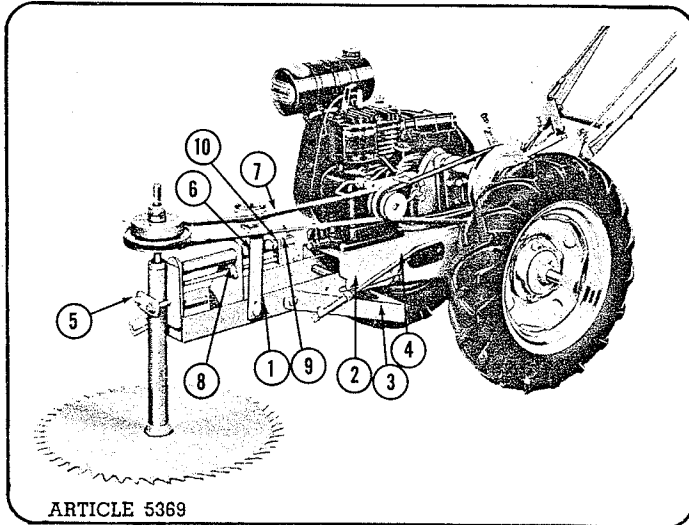

Fig. 1
1. Attach the saw frame (1, Fig. 1) to the patented QUICK-HITCH (2, Fig. 1) on the front of tractor.
2. Tighten the two T nuts on QUICK-HITCH AND DROP STAND (3, Fig. 1) into position on ground.
3. Attach stand rod (4, Fig. 1) to stand and to lower clutch lever with spring clips.